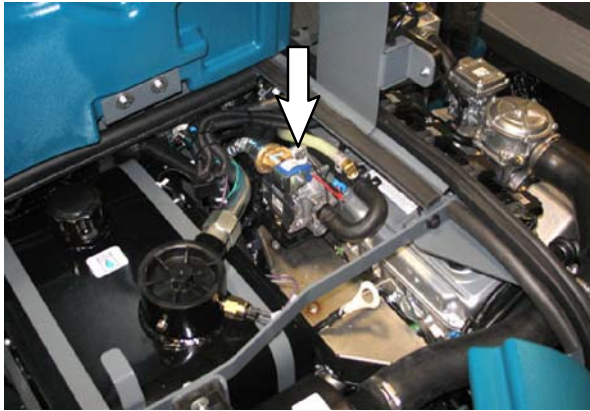
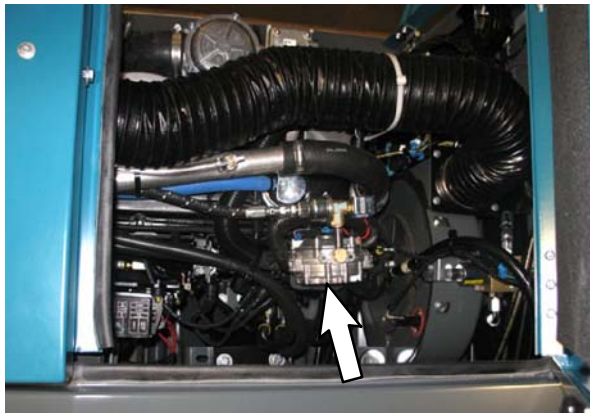
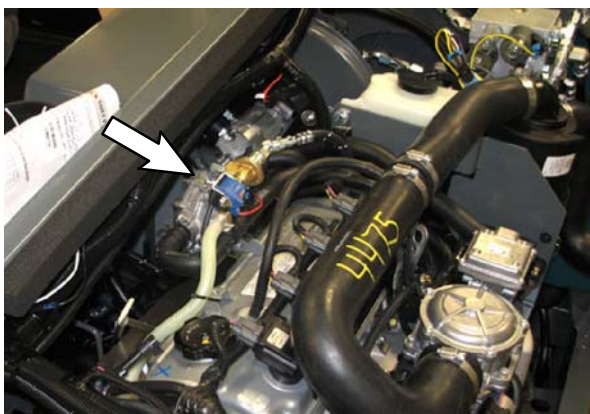
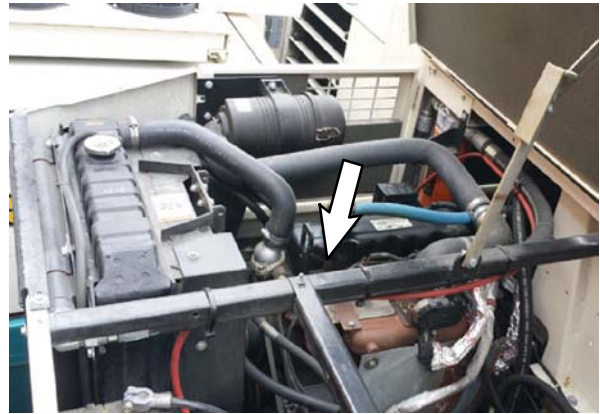

FIG. 2 - S30
FIG. 3 - 800
FIG. 4 - M20 / M30 / T20
FIG. 5 - 550
4. Open covers / doors to access the engine compartment and locate the LPG vaporizer. (Fig. 2 / Fig. 3 / Fig. 4 / Fig. 5)